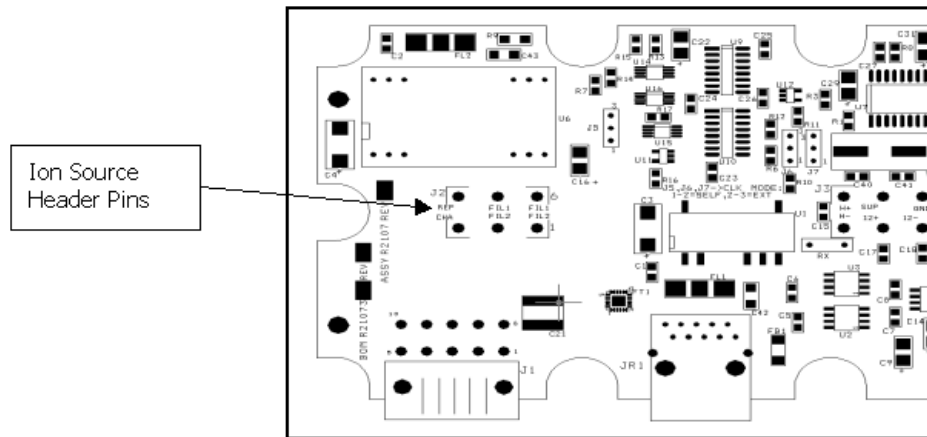

Figure B-87 Ion Source Header Pin Schematic
20. On the PCB, use the resistance meter to verify an open circuit between any two of the six ion source header pins (except FIL-1 to FIL-1 and FIL-2 to FIL-2 which should be 0.3 Ohms or less). Also verify an open circuit between the body of the spectrometer and any of the ion source header pins (Figure B-87). If there is continuity (short circuit) at any of the points, remove the header and inspect for shorting.